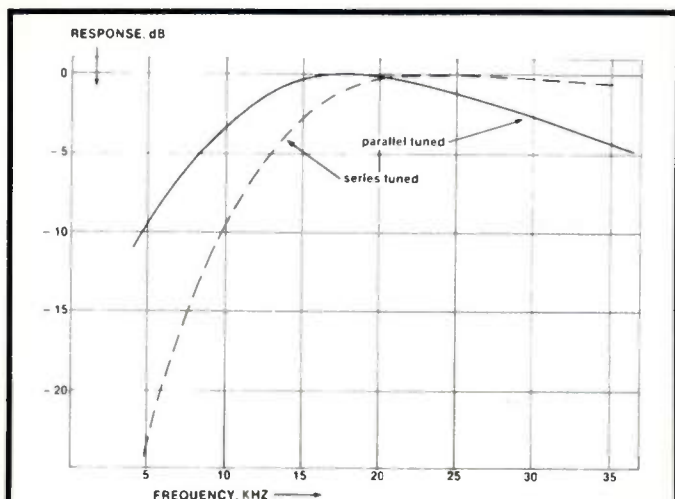

Figure 5. Comparison of Parallel and Series Tuned Antenna Response
Series tuned antenna does not provide a suitable bandpass response. The E_e response is the same as for the parallel tuned case, but E_o/E has a bandpass characteristic; thus, the overall response has a highpass rather than bandpass shape. This is shown in Figure 5. The same loop antenna as in the above example was used. The total capacity of 1742 PF was divided into $C_s = 100 \text{ PF}$ and $C_{TS} = 1642 \text{ PF}$. The calculated response using equations (1) and (7) is shown in Table V.